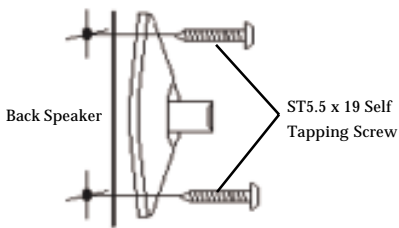

Figure 6
2. Drill the pilot hole(s) using a 1/8" drill bit. The holes(s) should not be drilled more than 1/2" depth, see **Figure 6** on the next page.